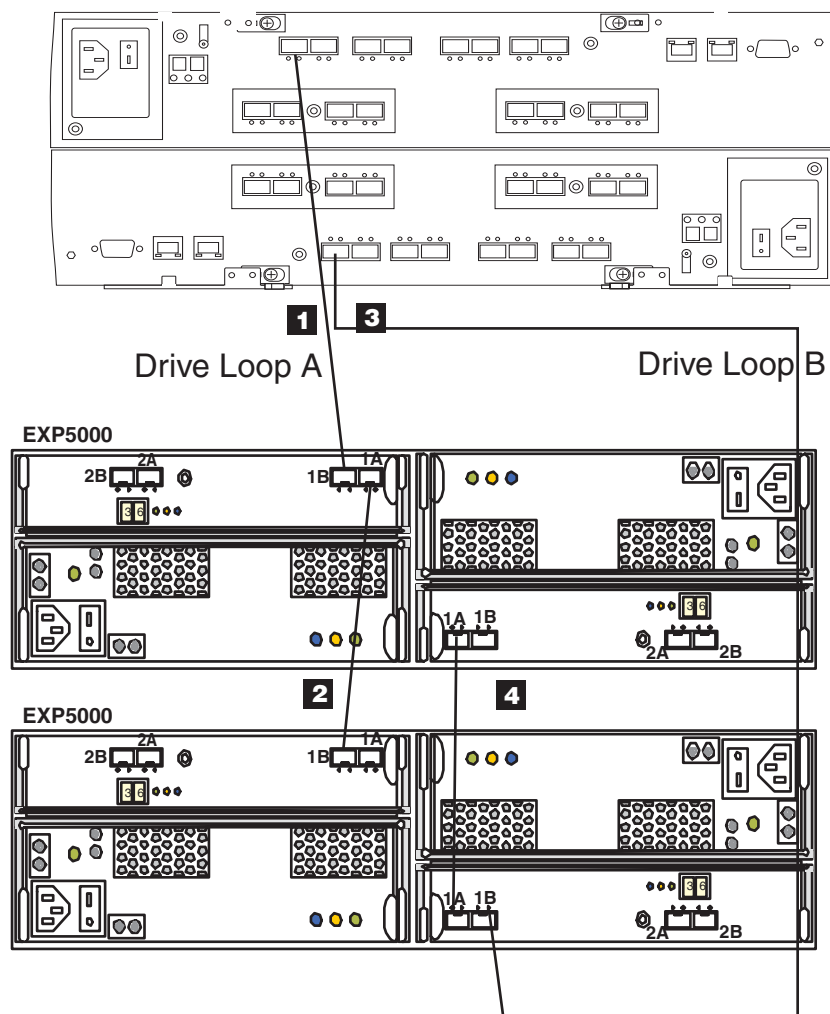

Figure 27. Correct EXP5000 redundant drive loop configuration
- The controller drive ports of the DS5000 storage subsystem controllers must always be connected to the ports labeled 1B in both right and left ESMs of the EXP5000s in the redundant drive channel/loop pair that is connected to the DS5000 storage subsystem. (Figure 27 on page 43 shows the location of the ports.)
Figure 27 on page 43 shows a redundant drive loop that you might create with a DS5000 storage subsystem and four EXP5000s. The numbers provided in Figure 27 on page 43 show the order in which cables should be attached. Note that the controller port is connected to the port labeled 1B on both the right and left ESMs.
To create drive loop A (of the DS5000 redundant drive loop) shown in Figure 27, you would perform the following steps:
To create drive loop B (of the DS5000 redundant drive loop) shown in Figure 27, you would perform the following steps: